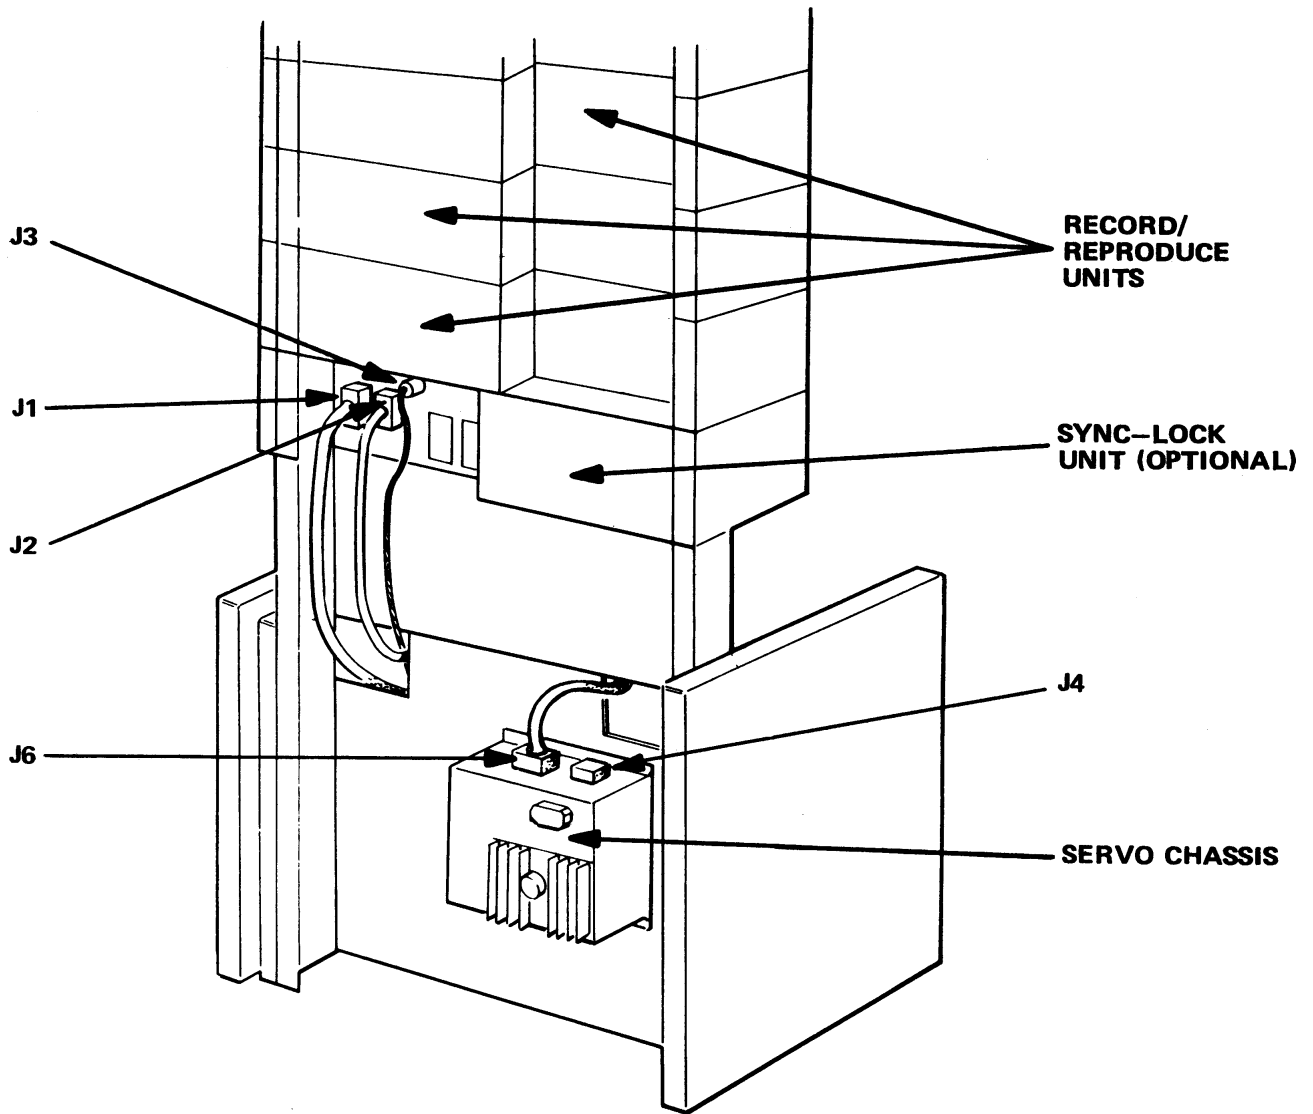

Figure 3. Servo Chassis Location
11. Install the capstan servo chassis included with the kit (part number 4020362-01) on the rear panel of the AG-440B/445B as shown in Figure 3. Use the hardware supplied. The precise location of the servo chassis on the rear panel is not critical.
12. Thread the cable assembly from the previously installed dc capstan motor through the opening in the rear panel of the AG-440B/445B and connect to J6 on the servo chassis as shown in Figure 3.